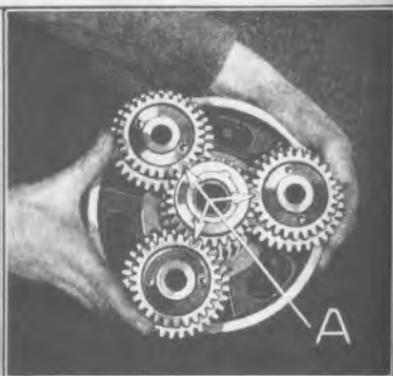

Fig. 201
- 304 Mesh triple gears with driven gear, making sure that the punch marks (See "A" Fig. 201) between the teeth on triple gears mesh with teeth on driven gear. The first triple gear can be meshed at any point on driven gear. The second and third sets of triple gear are assembled in the same manner as the first triple gear, but at intervals of nine teeth or  $120^\circ$  apart on the driven gear.